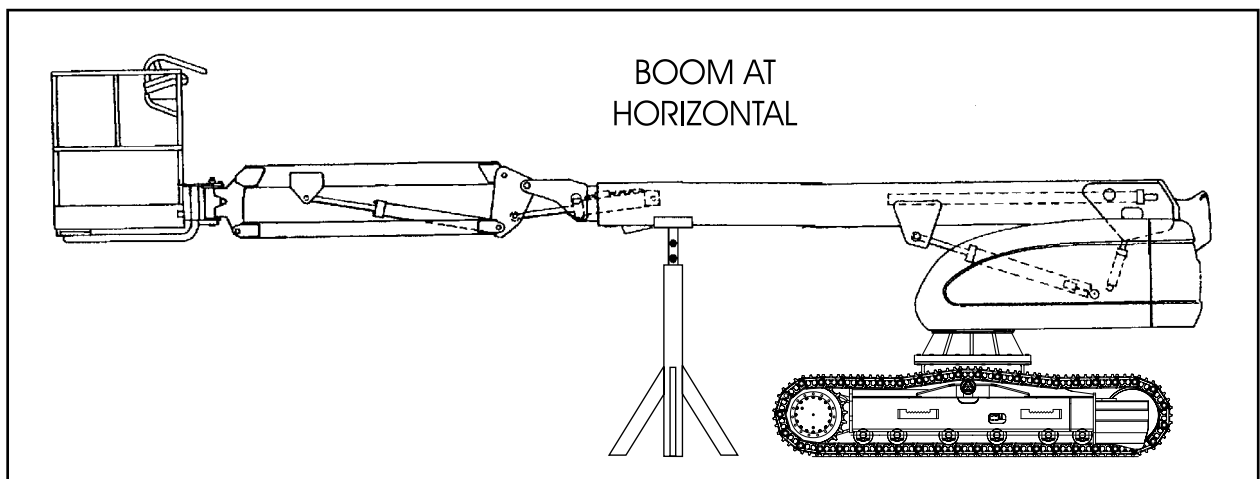

Figure 5-14. Boom Positioning and Support, Cylinder Repair
2. Shut down engine. Support main boom basket end with a prop. (See Figure 5-14., Boom Positioning and Support, Cylinder Repair).
1. Place the machine on a flat and level surface. Start the engine and place the main boom in the horizontal position. Shut down engine and prop the boom. (See Figure 5-14., Boom Positioning and Support, Cylinder Repair)